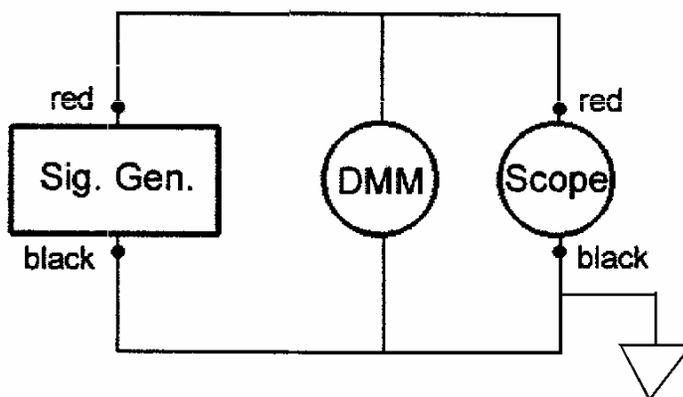

Fig. 2
1. Replace the battery with the signal generator as in the circuit of Fig. 2. Set the signal generator for a 1000Hz sinewave about $1V_{rms}$ on the DMM (AC)
4. RMS: Set the sig. gen. DC offset accurately to zero, watching the DMM (DC). Change the DMM to AC, then determine the peak-to-peak voltage from your scope trace and compare with the reading from the DMM.
- 1) Continue with the circuit shown in fig. 2. Adjust the SEC/DIV control to display one complete period of the measured waveform, making sure that the variable SEC/DIV control is in CAL detent.